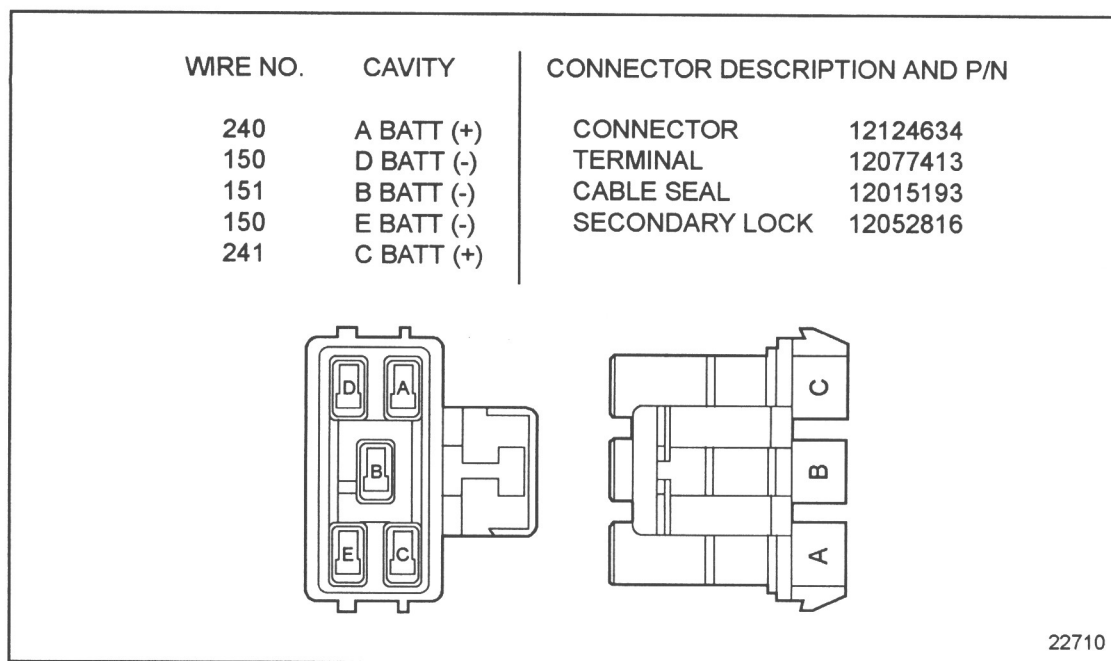

Figure 46–1 5–Way ECM Power Connector
3. Measure voltage from socket A and C (red lead) of 5-way power harness connector and a good battery ground (black lead). Don't use line (#151) as a ground reference. For 5-way ECM power harness connector, see Figure 46–1. For power harness schematic, see Figure 46–2.